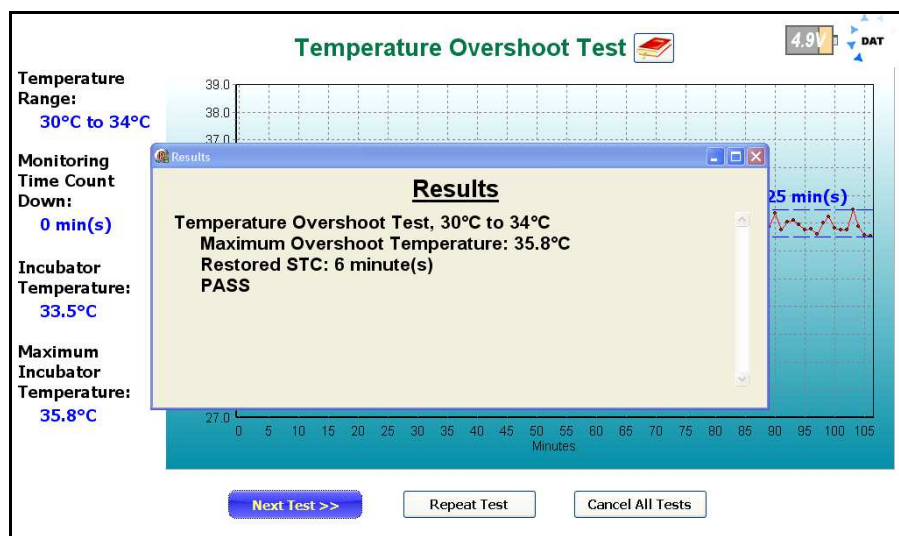

Figure 49: Temperature Overshoot Test Results
The Standard prescribes that the **Incubator Temperature** must not exceed 36 °C (34 °C + 2 °C). In addition, the incubator must return to a **Steady Temperature Condition** within 15 minutes of first reaching 34 °C. This last requirement is a little unclear in the Standard, since **STC** is already defined as a condition that exists for 60 minutes. IncuTest interprets the requirement of the Standard to mean the incubator must return to a condition that meets the requirements of **STC**, except for the 60 minute minimum time frame. IncuTest monitors the **Average Incubator Temperature (IT)** and checks to see that the **Incubator Temperature** does not differ from **IT** by more than 0.5°C. IncuTest will display the length of time **STC** has been true using dashed blue lines on the display. If this **STC** measurement is true within 15 minutes of first reaching 34 °C, the incubator passes the test requirements. The **Results** will be shown in the dialog box as shown in **Figure 49**.